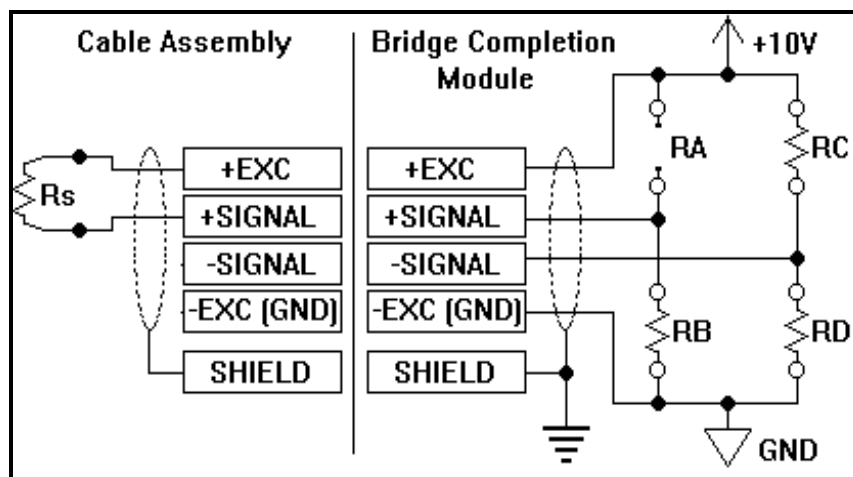

Figure 2. Quarter bridge with resistive element placed between the +EXCITATION and the +SIGNAL terminals, R_A is removed.
Quarter bridge strain gauges refer to a configuration in which only a single (1) resistive element is mounted onto the test specimen. In this case, three (3) of the four (4) absent resistors need to be mounted into their sockets in order to complete the bridge. Please refer to figures 2 through 5 for further details.